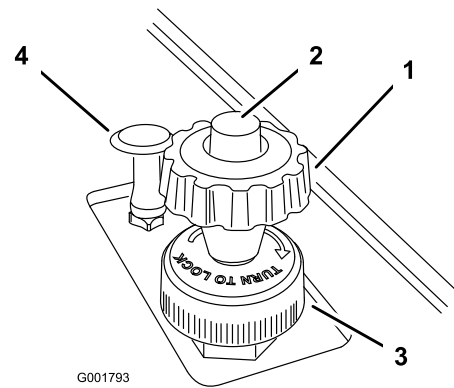

Figure 23
2. Press the button on top of the speed limiter knob and pull up on it until you feel it touch the accelerator pedal, then release the button (Figure 23).
4. Once you have it set, you can lock it at that setting by turning the locking ring at the base of the speed limiter clockwise until it stops (Figure 23). To release this lock, turn the locking ring counter clockwise until it is loose.